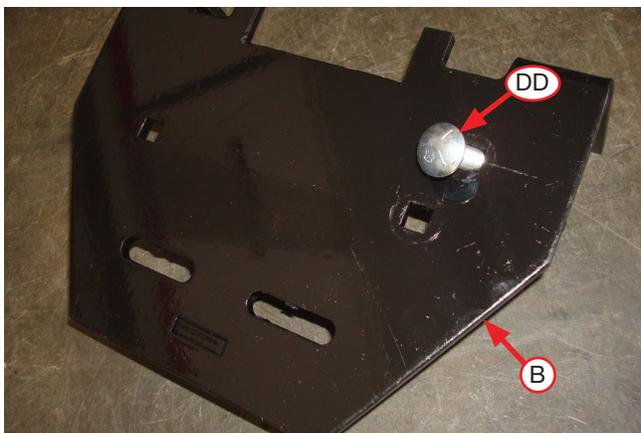
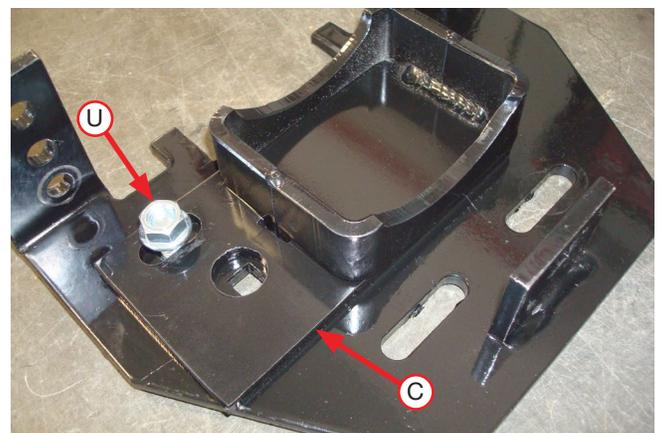

Fig. 10
Fig. 11
- Insert a 3/8"-16 X 1" carriage bolt (DD) through the top of the lower bracket (B), as shown in Fig. 10. Flip the assembly over and set the lower bracket cup (C) onto the lower bracket and over the carriage bolt (Fig. 11). Cap with 3/8"-16 serrated flange lock nut (U) and snug the nut only. Leave loose enough for the bracket to move freely in the slot.